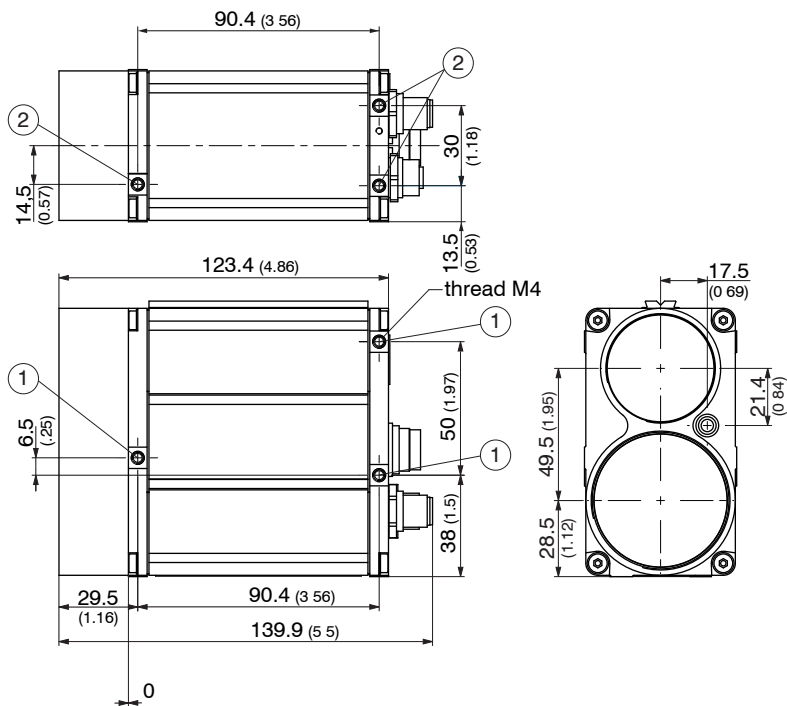

Fig. 5 Dimensional drawing sensor, dimensions in mm, not to scale
- Attachment to a lateral surface. The sensor provides three support pads, see Fig. 5, reference 1, with mounting holes M4 x 6.
- Attachment to casing bottom. The sensor provides three support pads, see Fig. 5, reference 2, with mounting holes M4 x 6.